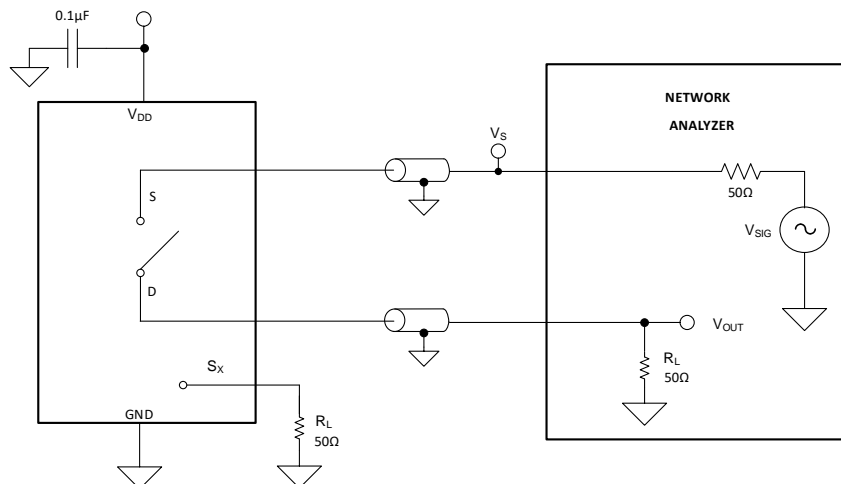

Figure 13. Off Isolation Measurement Setup
Off isolation is defined as the ratio of the signal at the drain pin (D) of the device when a signal is applied to the source pin (Sx) of an off-channel. Figure 13 shows the setup used to measure, and the equation used to calculate off isolation.